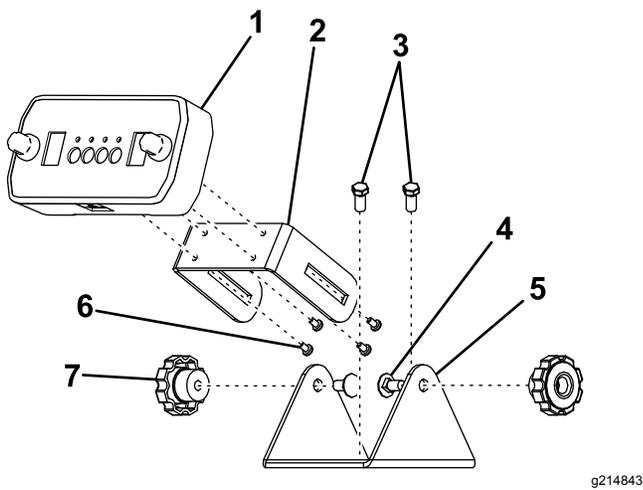

Figure 17
- Attach the mounting bracket to the vehicle using either 2 hook and loop fasteners or 2 sheet-metal screws (Figure 17).
2. Connect the controller display to the sliding bracket using 4 pan-head screws (Figure 17).
3. Attach the sliding bracket to the mounting bracket using 2 carriage bolts and thumb nuts (Figure 17).